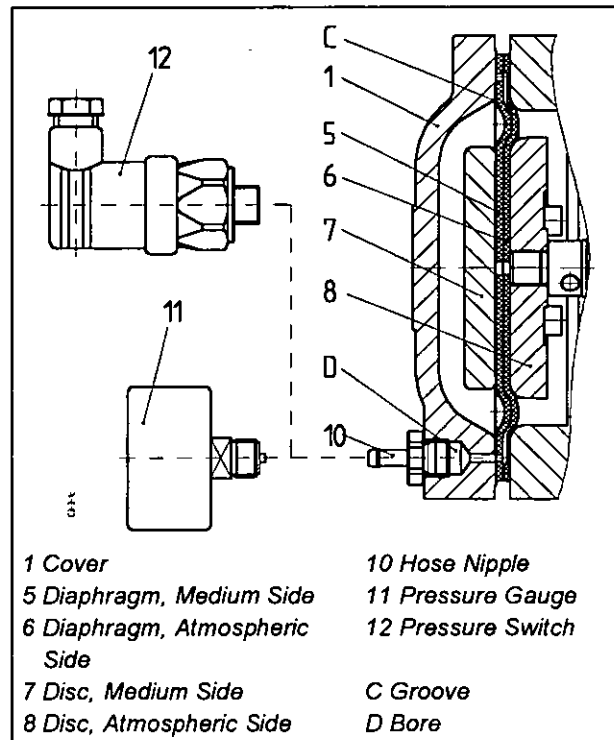

Fig. 3.3: Diaphragm Rupture Monitoring Device
The double diaphragm arrangement (Fig. 3.3) consists of two diaphragms (5, 6) clamped corrugation in corrugation between medium (7) and atmospheric side (8) discs.
Within the mounted pump head (Fig. 3.3), a connection exists from the inner contact area between the two diaphragms through the groove (C) in the atmospheric side diaphragm (6), a bore in the medium side diaphragm (5) and the bore (D) in the cover (1) to the hose nipple (10), the pressure gauge (11) or the pressure switch (12).